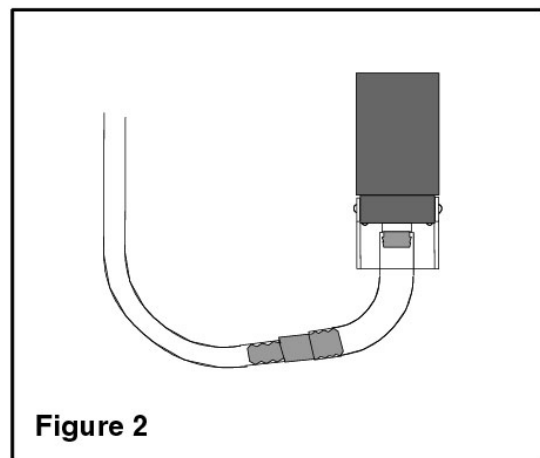

Figure 2
2. Connect the plastic tubing to the TC duct intake on the temperature sensor [Figure 1] (or to the open end of the conductivity cell on systems without the TC duct [Figure 2]), and inject solution into the cell and pump plumbing.
- CTDs without a TC duct or hose barb fitting (older instruments) - leave the reducing union and large diameter tubing attached and carefully connect the tubing directly to the end of the glass conductivity cell [Figure 2].